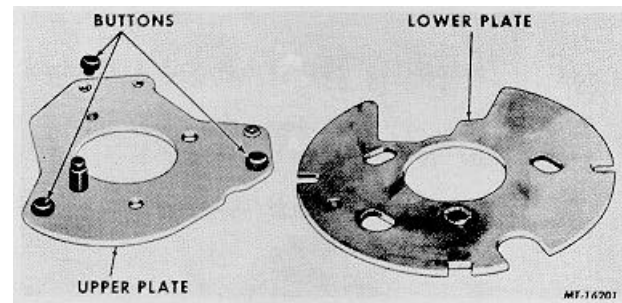

Fig. 20 Upper and Lower Plates Separated
- Separate upper and lower plates and remove three thrust buttons from upper plate (Fig. 20).